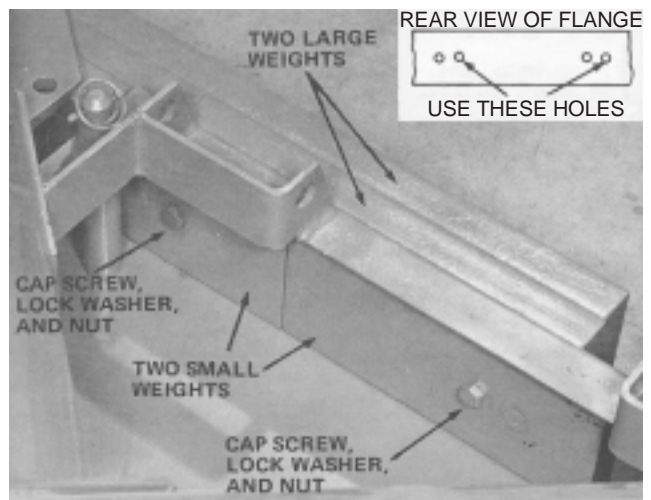

Figure 3
5. Install two small weights on inside and two large weights on outside of mounting flange with two capscrews, lockwashers and nuts (Fig. 3).
**Note:** Mounting flange for weights has two sets of holes. To assure correct installation, use extreme right pair of holes (Fig. 3, inset). Also, long end of weights must be toward right side of plow.